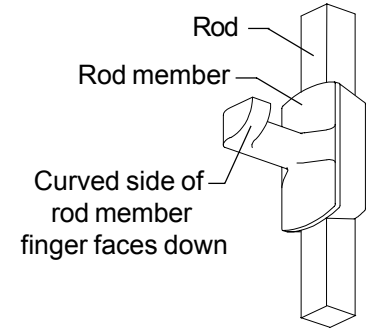

Figure 5. Rod member position.
10. Place rod member on top vertical rod so rod member finger faces door and curved side of rod member finger faces down (Figure 5).